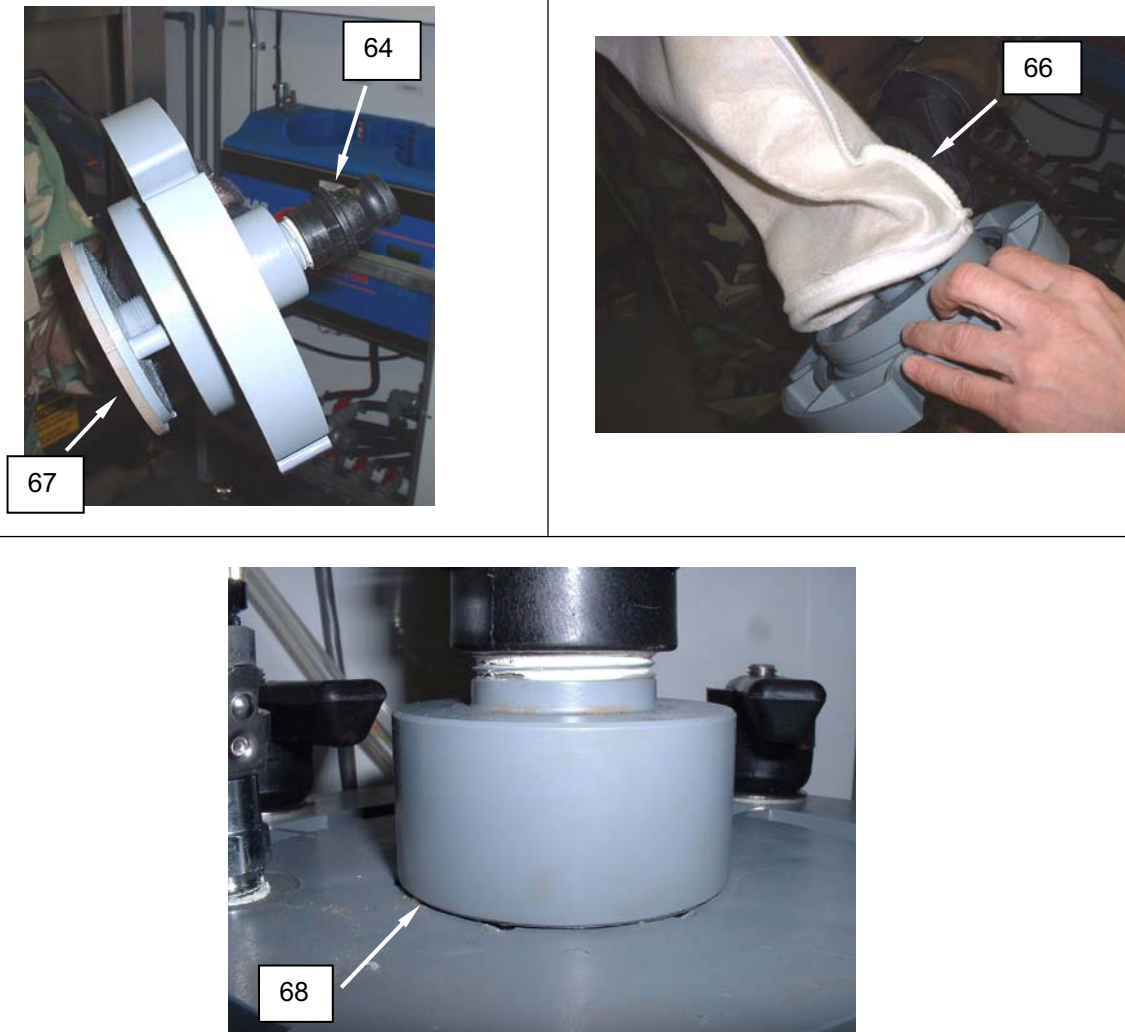

Figure 20. Install the F-1A and F-1B Filter Elements (Socks).
- Loosen the QD male fitting (**Figure 20, item 64**) enough to install the filter sock (**Figure 20, item 66**) to the filter retainer plate (**Figure 20, item 67**).
- Fit the filter sock (**Figure 20, item 66**) to the filter retainer plate (**Figure 20, item 67**) so the grooved edge (flange) lays against the filter. Ensure the seam of the bag opening is thoroughly captured by the filter retainer.
- Tighten the filter retainer plate (**Figure 20, item 67**) hand tight using the QD male fitting (**Figure 20, item 64**).
- Ensure O-ring (**Figure 20, item 68**) is seated correctly and lubricate as needed.
- Wet the filter sock (**Figure 20, item 66**) thoroughly with clean source water.